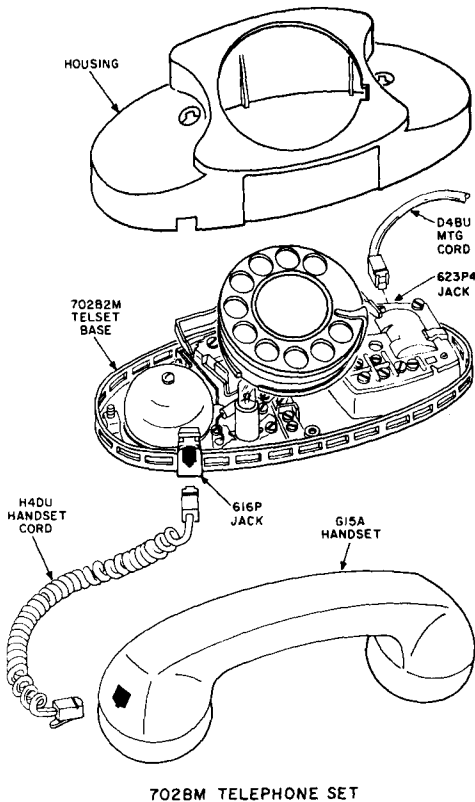

Fig. 4—702BM Telephone Set
2.07 The 702BM telephone set (Fig. 4) is a modular PRINCESS telephone set. It has the same feature as the 702B set plus modular features.